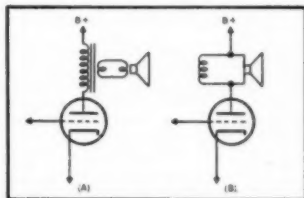

Fig. 2. Conventional single-ended output stage with low-impedance speaker (A) and with high-impedance speaker and no output transformer (B).
The circuit illustrated at (A) in Fig. 2 is a conventional single-ended output stage in which the low impedance speaker is coupled to the output tube through a transformer. Assuming that this tube is properly matched with a 2000-ohm load and that we have available a speaker whose voice coil has a 2000-ohm impedance, the question is how to hook them up. The simplest and most direct method would be that shown at (B) in Fig. 2. Unfortunately, however, this method cannot be used because the d.c. flowing through the voice coil of the speaker will induce a magnetic field which will react with that of the speaker's own field, and cause the voice coil to move to a new reference or zero-voltage position which is off center both mechanically and magnetically. In this condition it is no longer a linear transducer and will produce distortion.